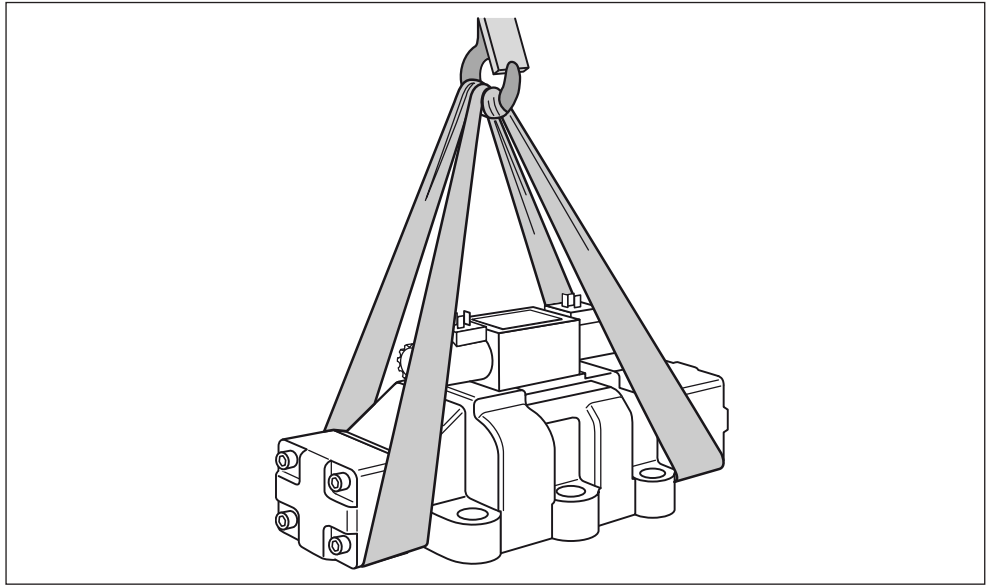

Fig. 1: Position of the transport belt
- ▶ Position a transport belt around the hydraulic valve so that it does not run over the attachment parts (e.g. pilot control valve, solenoids), see Fig. 1